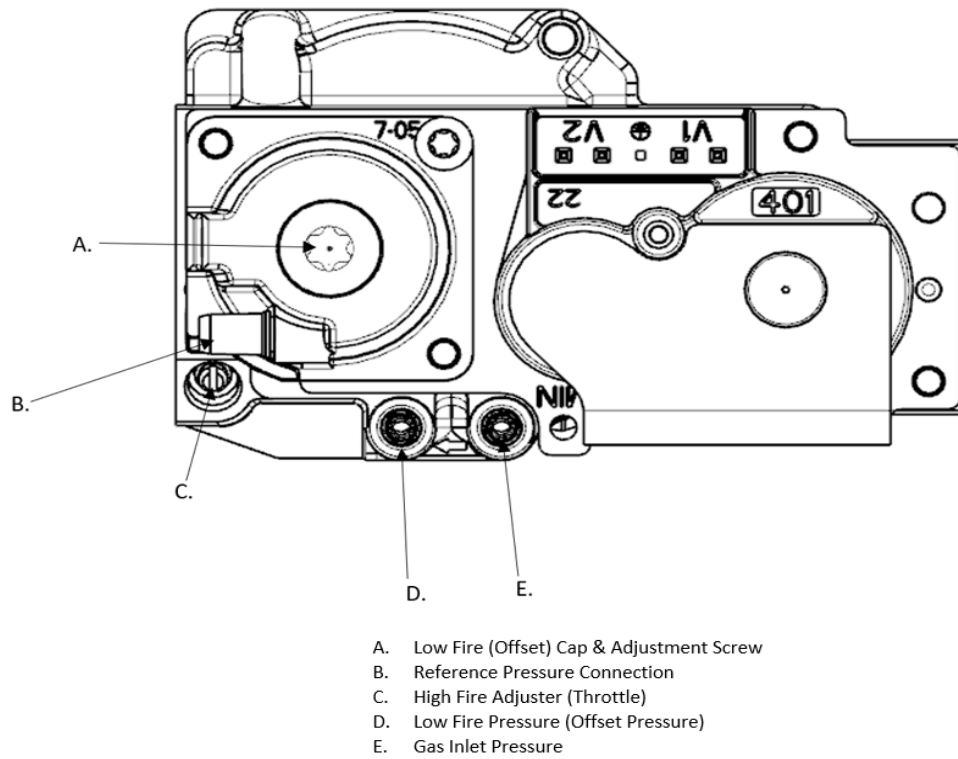

Fig. 9: Throttle Screw Location
- If the combustion levels during high fire are outside the recommended combustion settings (see Table 1), adjust the THROTTLE SCREW (see Fig. 9) using a flat-blade screwdriver as follows: